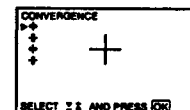

Fig. 3
- 1 Select "CONVERGENCE" with  $\Delta$  + or  $\nabla$  - and press OK. The CONVERGENCE menu appears. (See Fig. 3.)